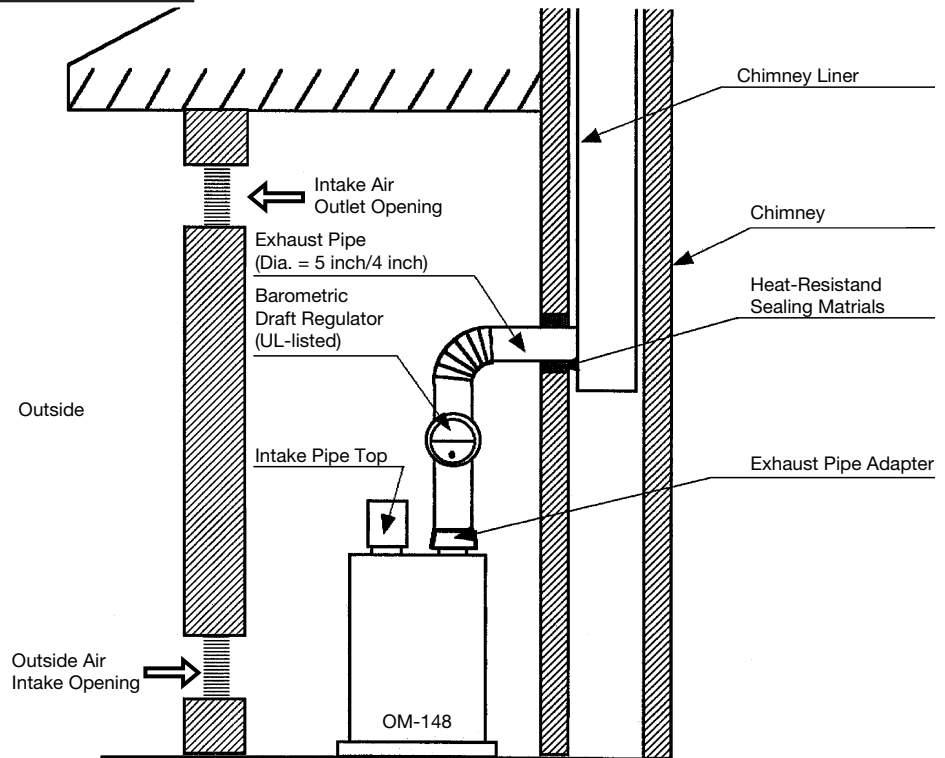

Fig. 1
3. Installation in an **unconfined space** in buildings of conventional frame, brick or stone construction, infiltration normally is adequate to provide air for combustion and ventilation. For **confined spaces**, openings for air intake and venting must be provided. (See Fig.1.) Check local codes and ordinances and/or NFPA-31 Code for specific details.